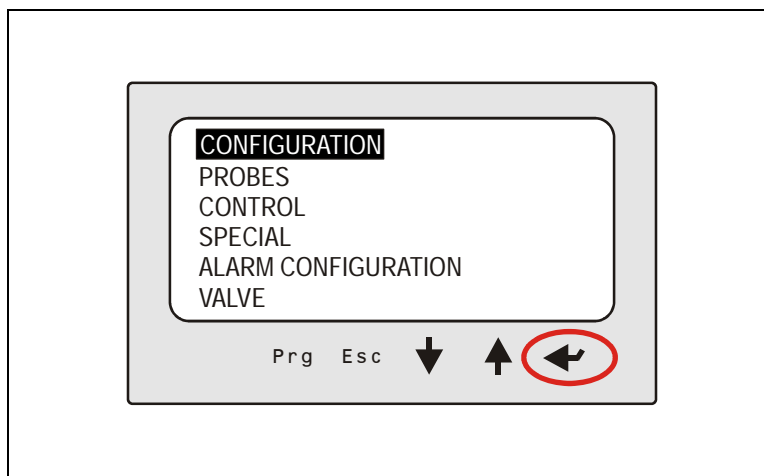

Figure 7 - Parameter Categories
4. If the password entered is correct, the list of parameter categories is displayed (Figure 7):
11. Go to the list of parameter categories (*Figure 7*).